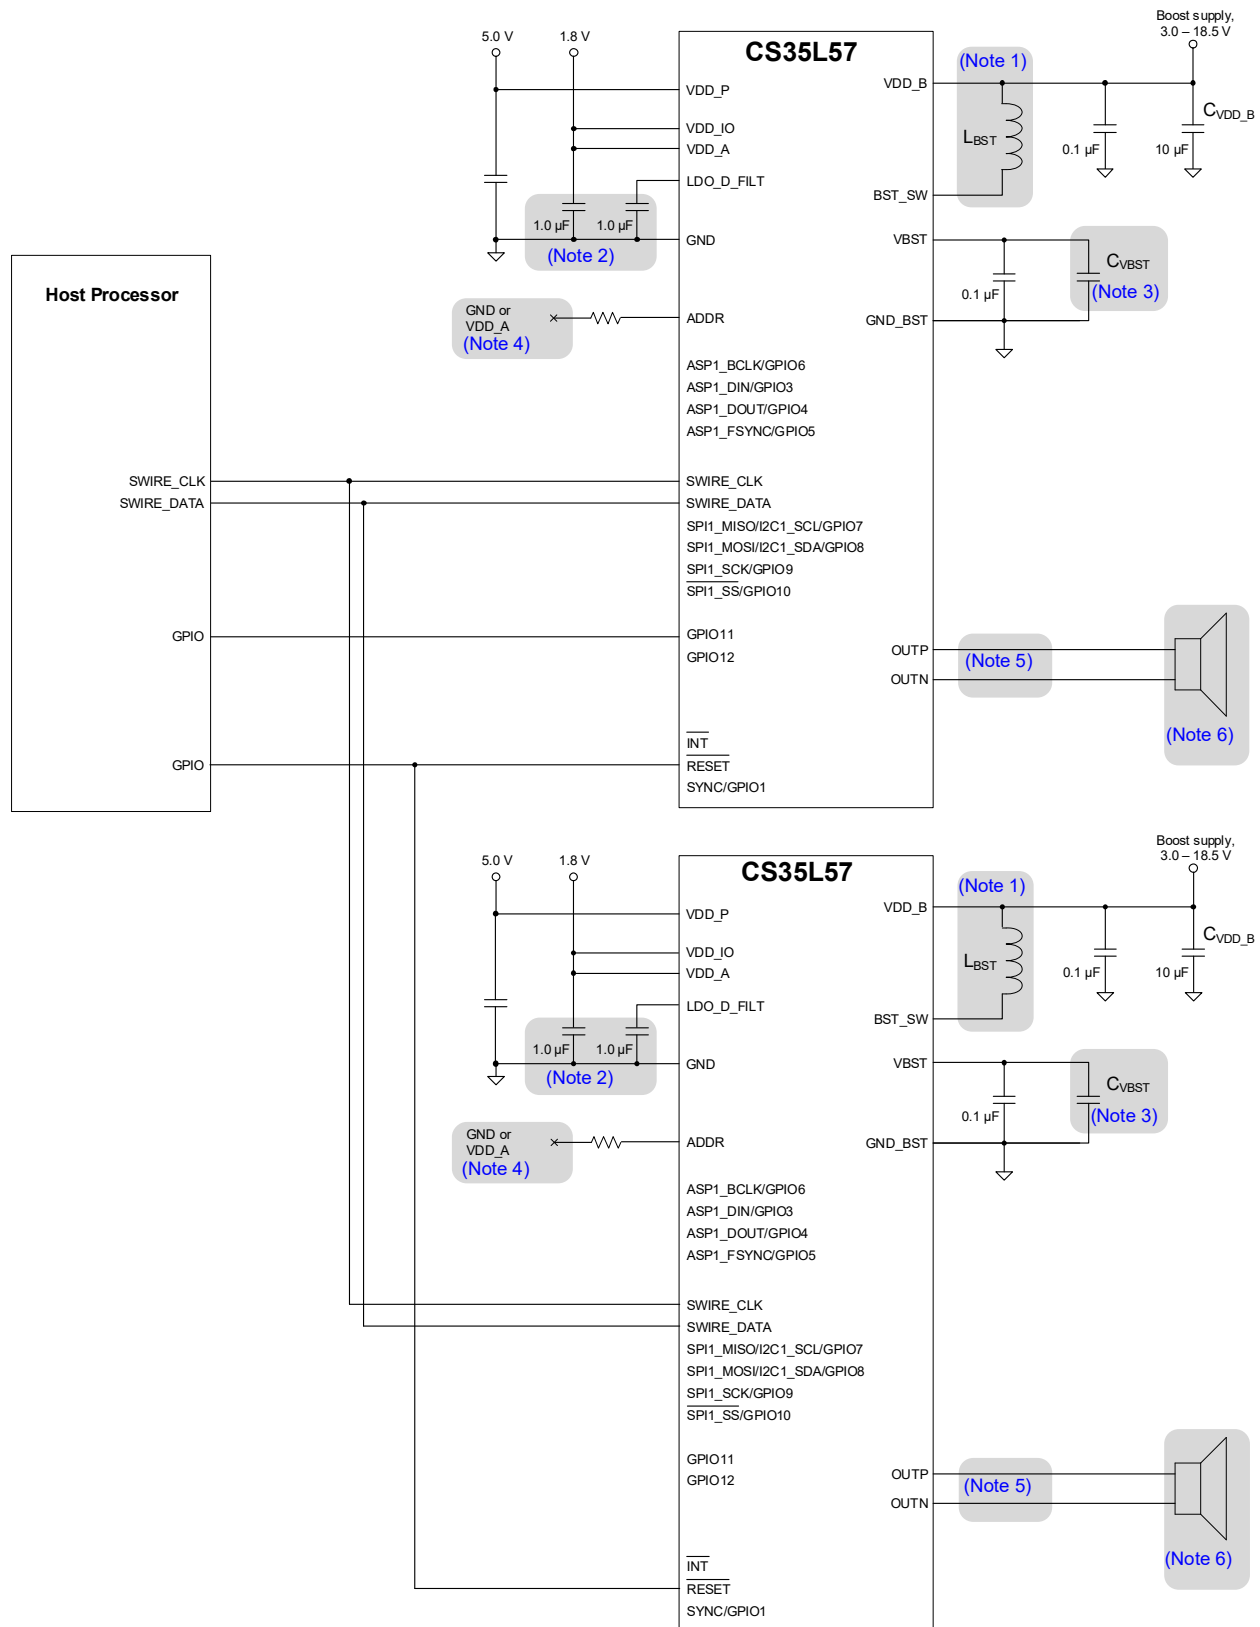
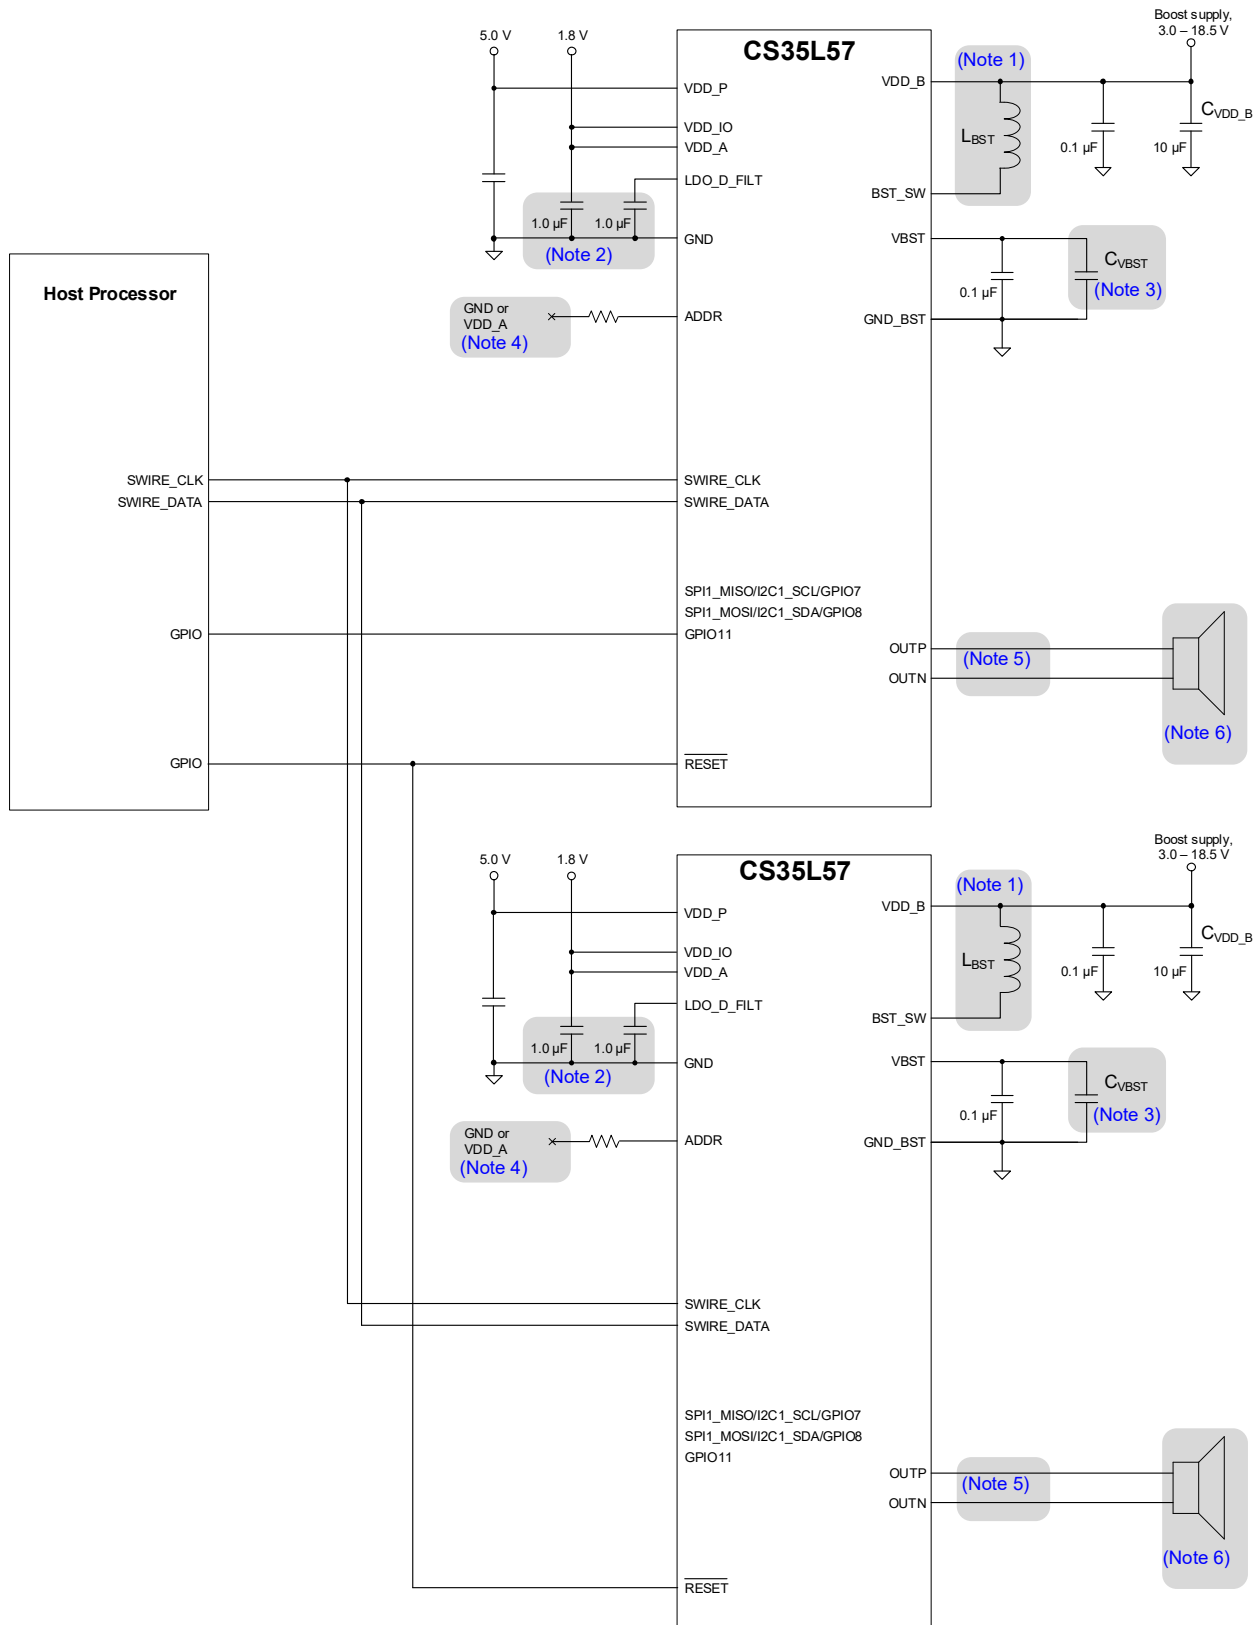

Figure 2-1. Stereo configuration with SoundWire control and internal boost power source
Figure 2-3. Stereo configuration with SoundWire control (reduced pin availability)
The typical connections shown in Fig. 2-3 are based on the pin assignments described in Section 1.3. The unsupported signal connections for this use case are not shown.
- Fig. 2-1 through Fig. 2-3 are examples intended to describe the connectivity of each functional block within the CS35L57, and do not limit all possible use cases.